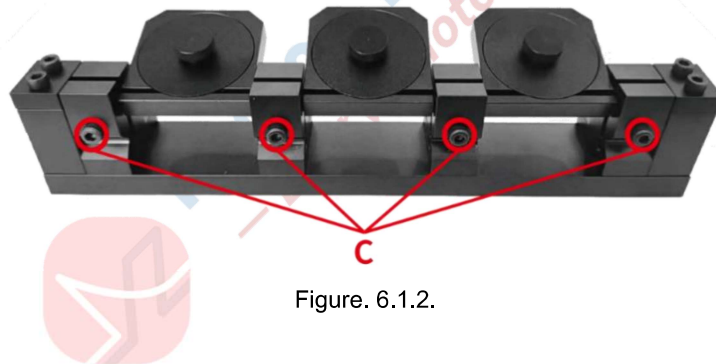

Figure. 6.1.2.
1. Release the slide cover (A) on every blade.
2. Each end of the fiber polarization controller has two rectangular cover plates (B). Remove the two screws and remove the rectangular cover plate.
7. Control the tightness of every blade by tightening the inner hexagonal screw (C) shown in Figure 6.1.2.